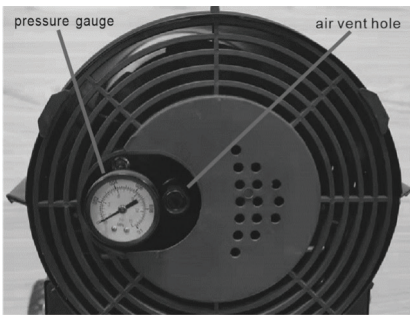

FIG. 7
- Block the air vent hole on the air pump (see Fig. 7) by using your finger during ignition to make start-up easier.